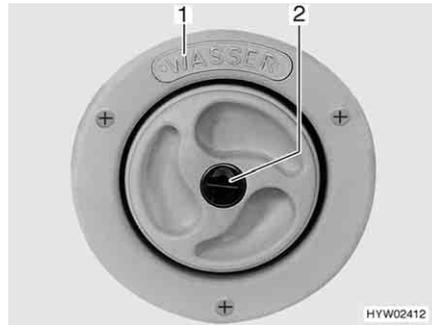
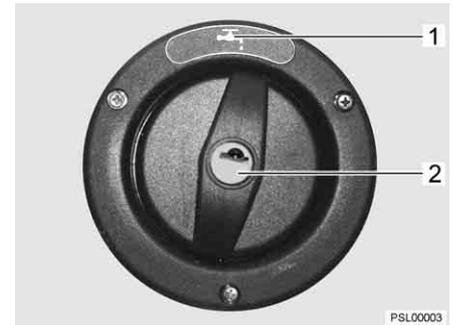

Fig. 37 Cap for the drinking water filler neck
Fig. 38 Cap for the drinking water filler neck (alternative)
- ▷ The drinking water filler neck is labelled by the word "WASSER" (water) (Fig. 37,1) or marked by the symbol "☰" (Fig. 38,1).
- Insert the key in the locking cylinder (Fig. 37,2 or Fig. 38,2) and turn it in an anticlockwise direction.